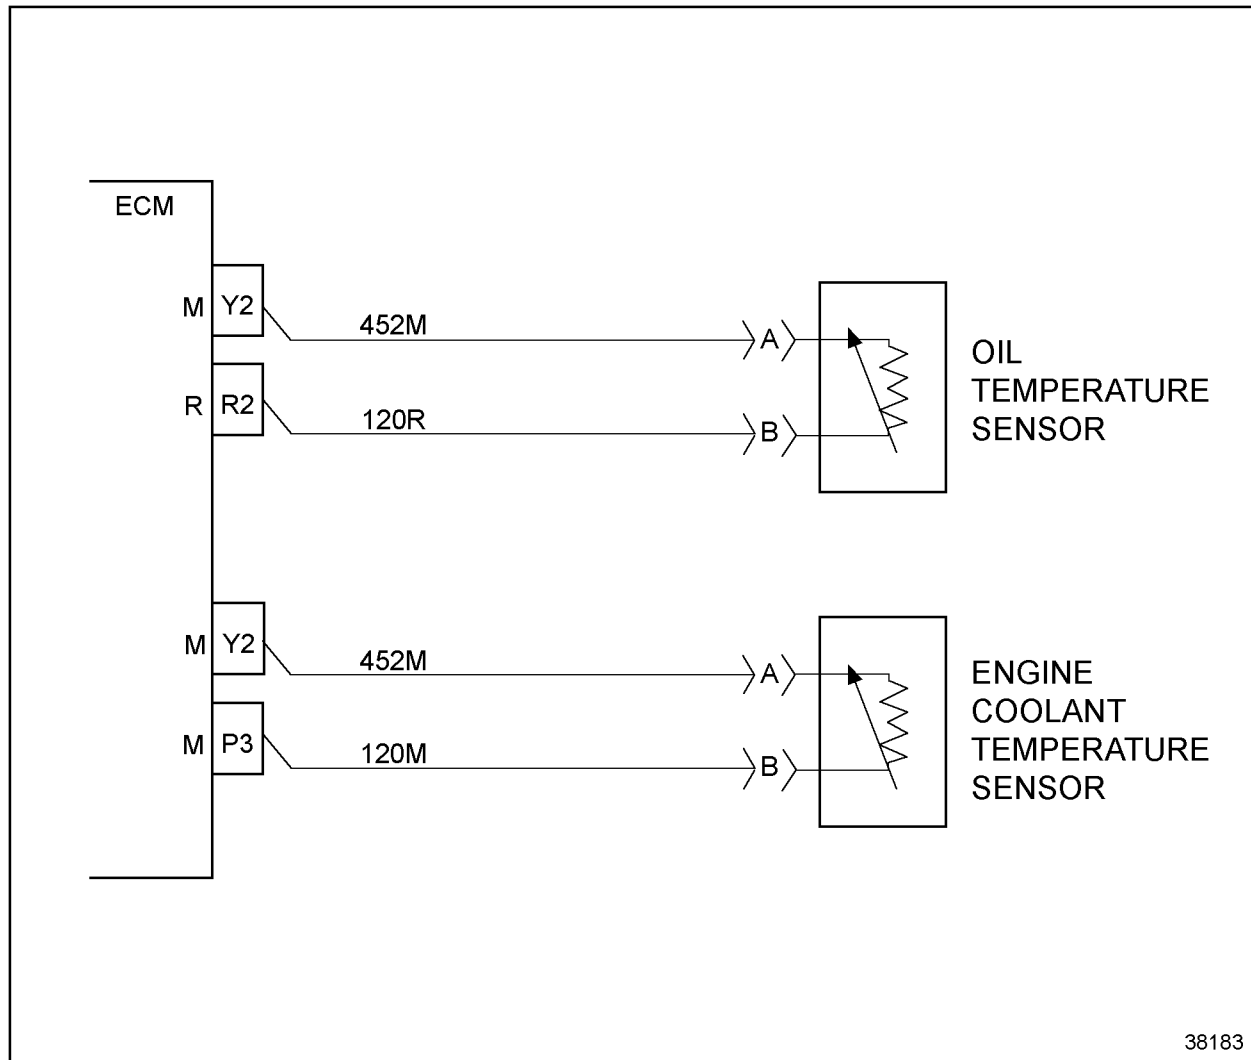

Figure 15-3 Temperature Sensor Circuits
1. Check terminals at the CTS connector (both sensor and harness side) for damage; bent, corroded and unseated pins or sockets. See Figure 15-3.